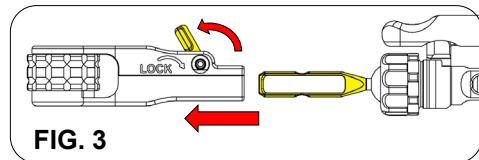

FIG. 3
2. Remove any adapters from the *CLICK RELEASE™ miniARM®* by rotating the adapter locking lever and sliding the adapter off the quick connect post (FIG. 3).
NOTE: FIG. 3 shows the cannula adapter being removed; other adapters are removed in the same manner.